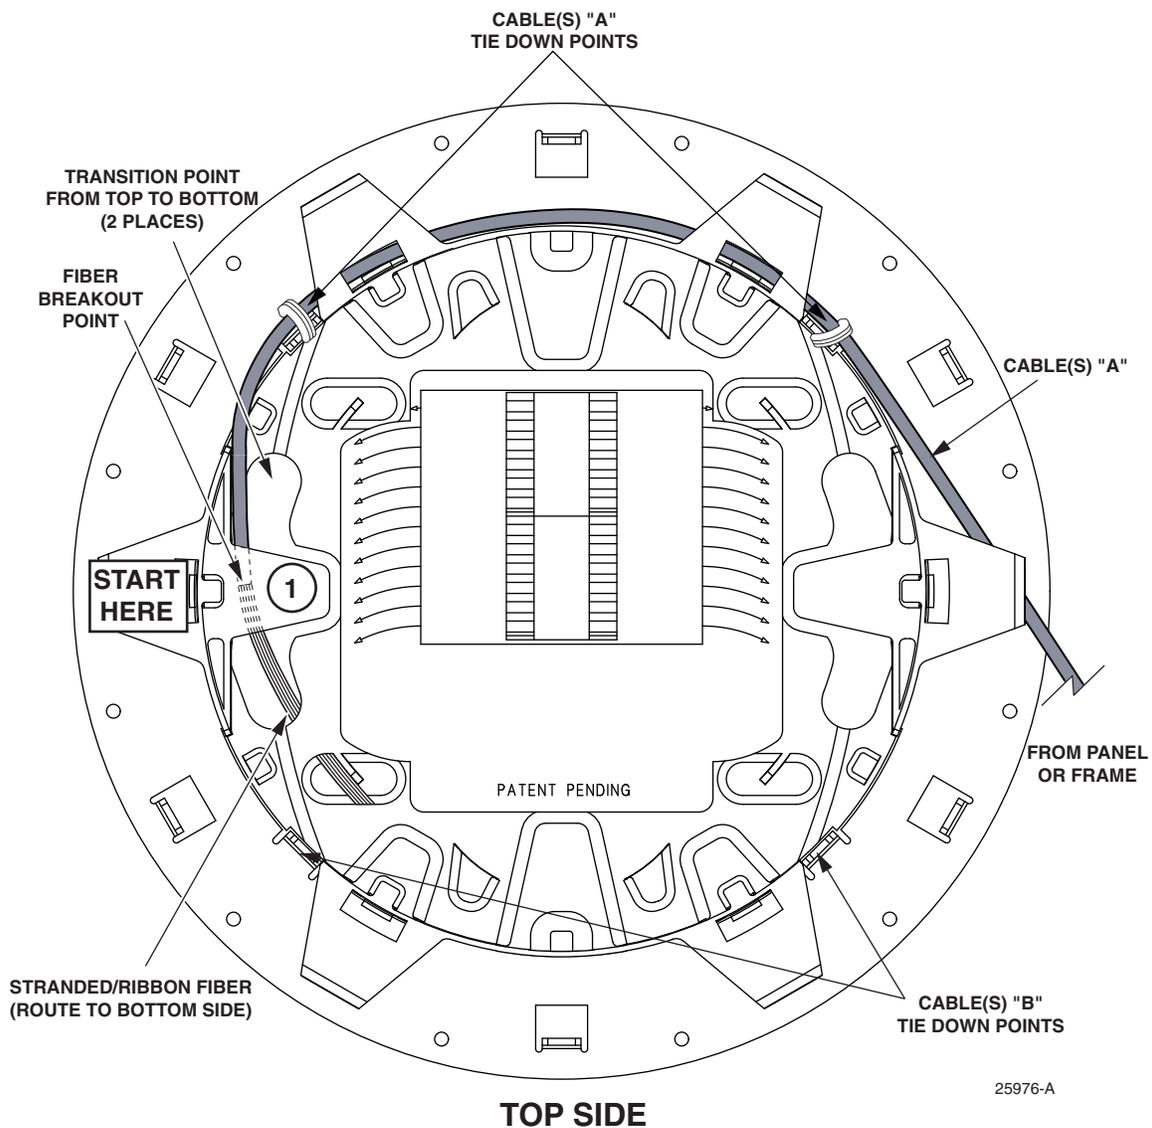
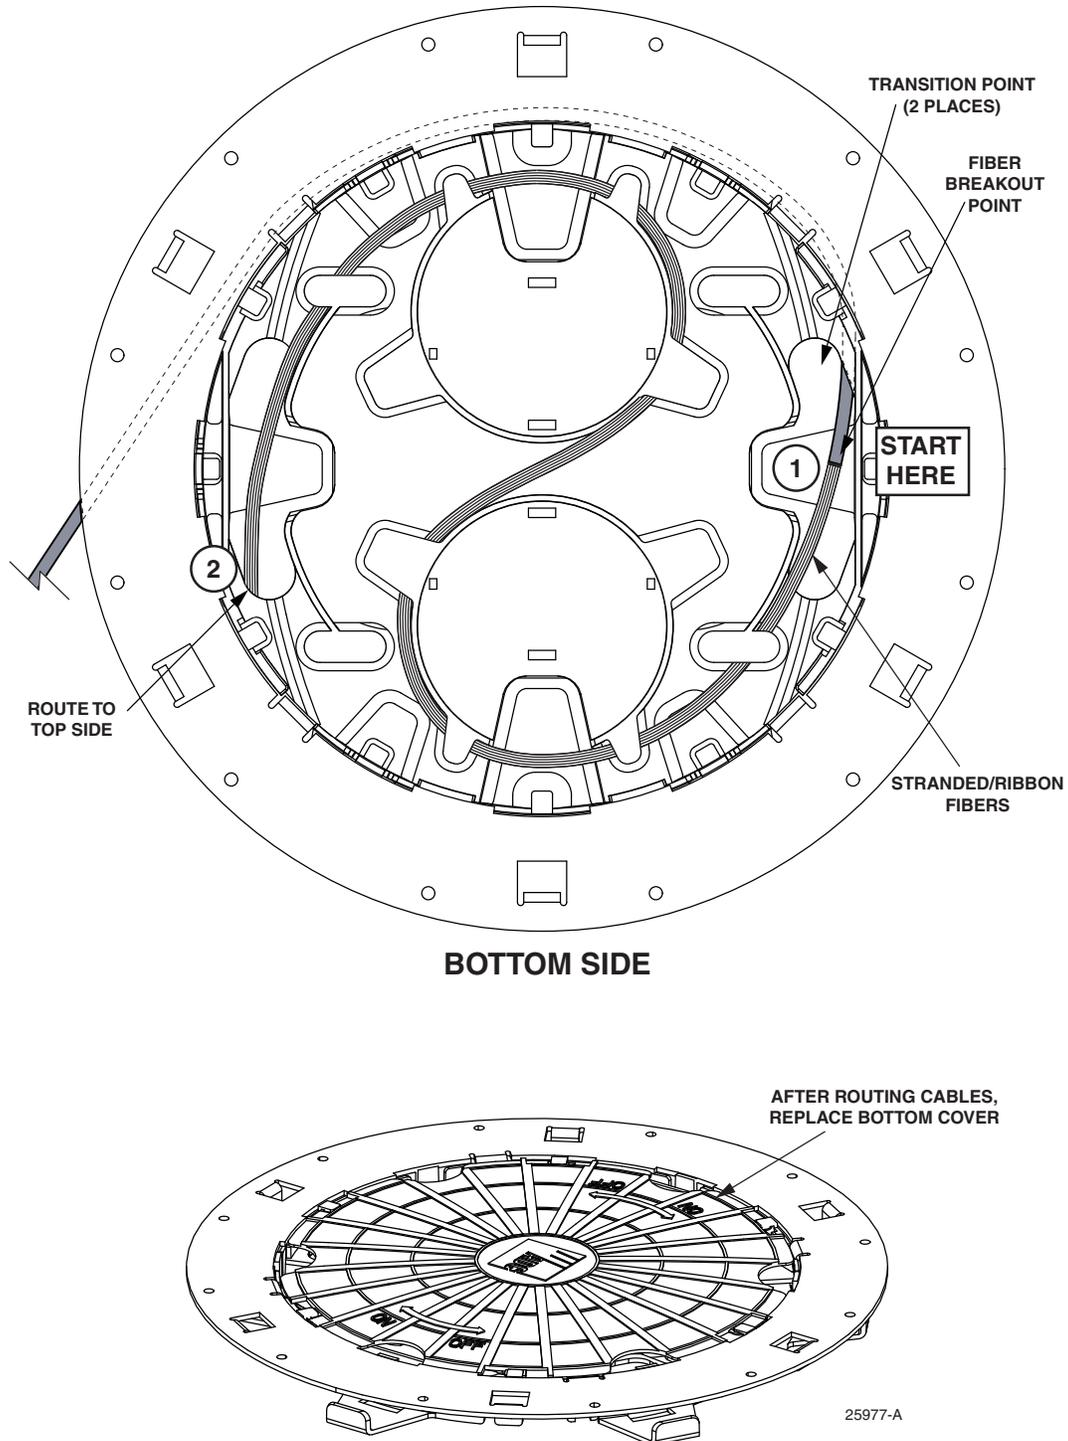
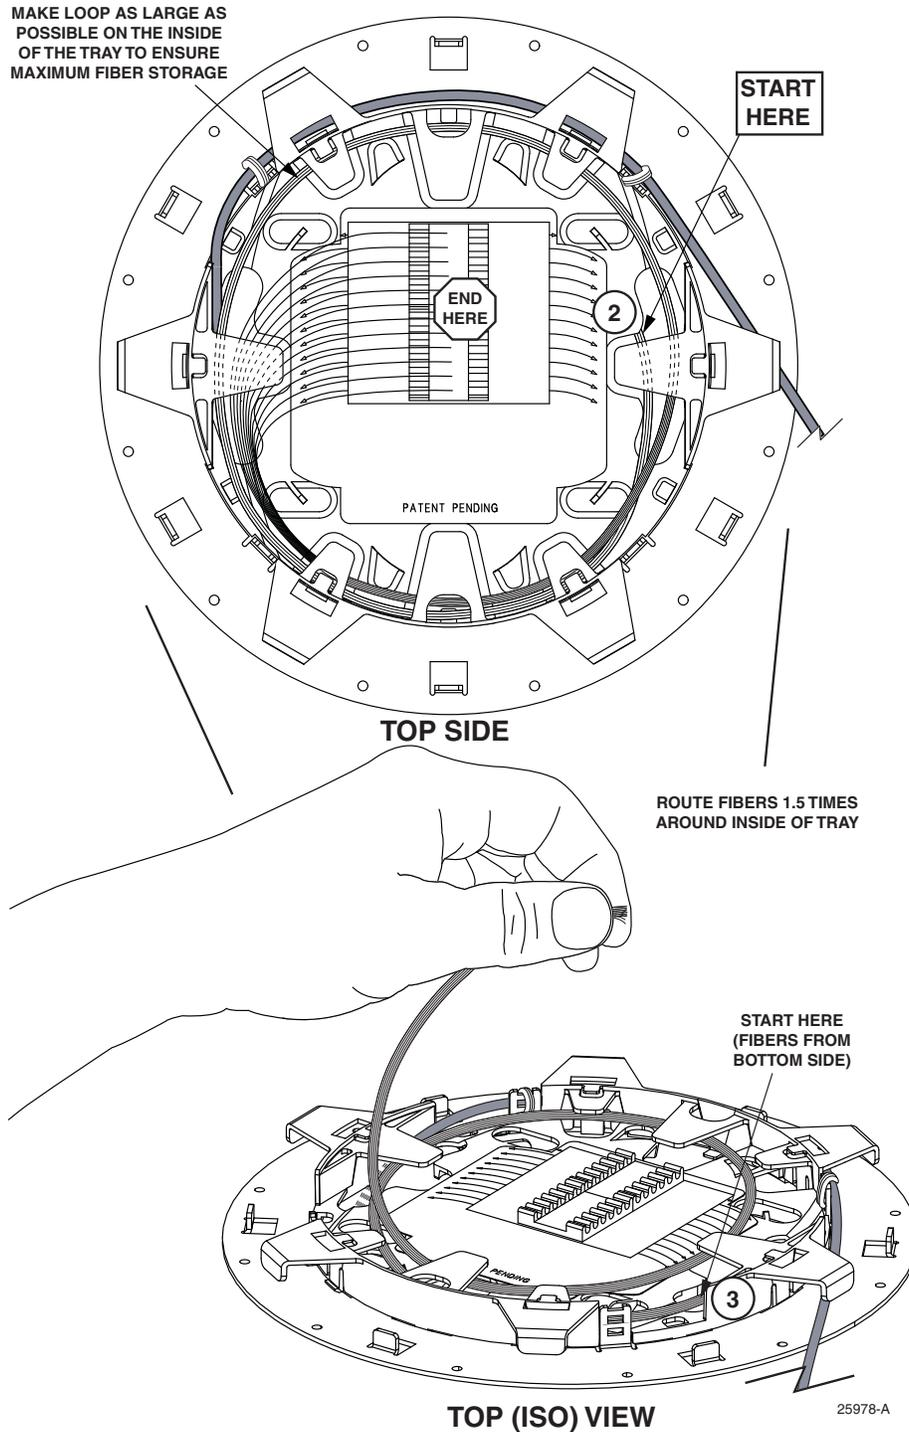

Figure 8. Cable(s) "A" Routing, Top Side (Counter-Clockwise Roll-Up Procedure)
Figure 9. Cable(s) “A” Routing, Bottom Side (Counter-Clockwise Roll-Up Procedure), continued
Figure 10. Cable(s) "A" Routing, Top Side (Counter-Clockwise Roll-Up Procedure), continued
1. Route the cable so the fiber breakout is positioned at the transition point from top to bottom (refer to the "circled 1" in Figure 8). Then route and tie down cable(s) "A" as shown in Figure 8 (If multiple cables are used, route cables simultaneously.)
➤ **Note:** The circled numbers shown in Figure 8, Figure 9, and Figure 10 are provided as an orientation aid when flipping the cable tray over.
2. Flip the tray over and continue routing cable(s) “A” around the spools and back to the top side, as shown in Figure 9. After routing the cable(s) on the bottom side, replace the bottom cover.
3. Flip the tray over to the top side and route cable(s) "A" to the splice tray area as shown in Figure 10. Make sure to route the stranded/ribbon fibers 1.5 times around the inside of the tray making the loop as large as possible to ensure maximum fiber storage.